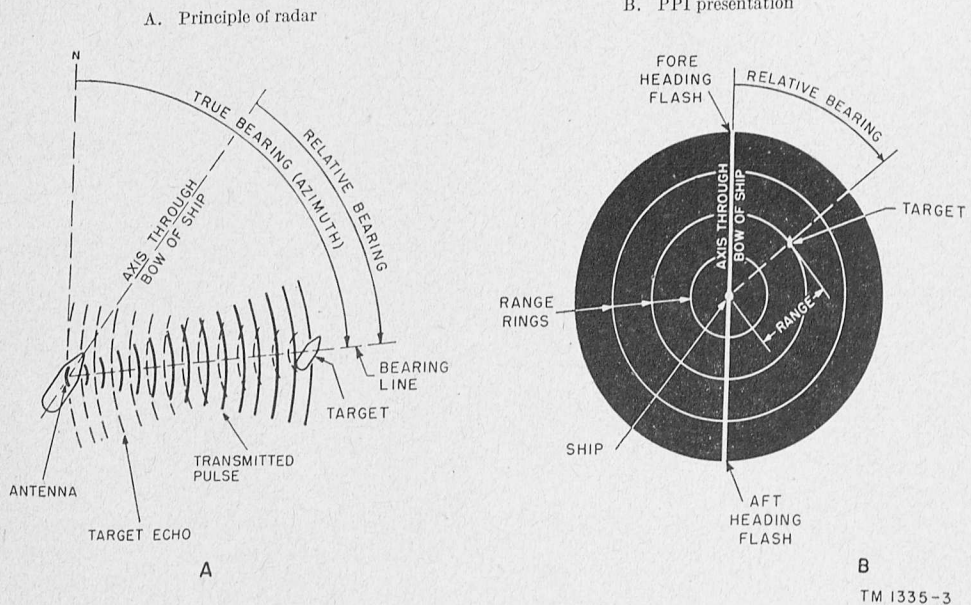
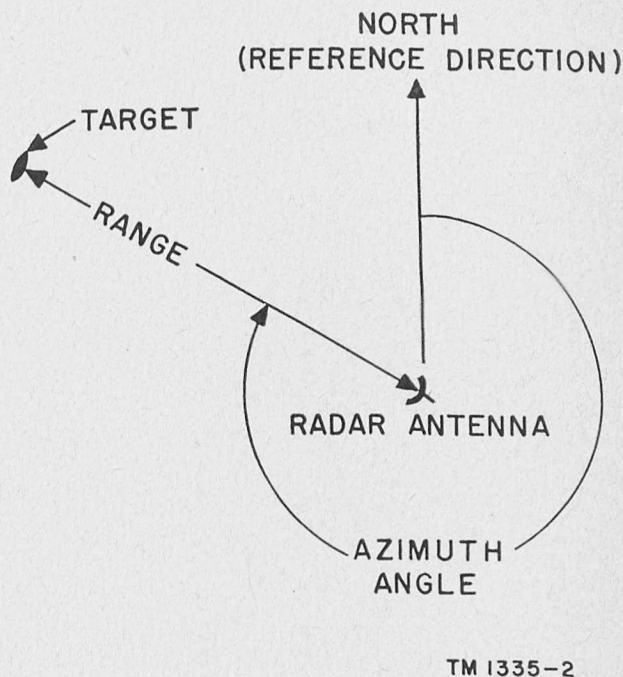

Figure 17. Radar patterns.
Figure 18. Azimuth angle and range.
Radar Set AN/SPN-11(*) radiates pulsed h-f (high-frequency) energy in a beam which is very narrow (1.9°) horizontally and relatively wide (20°) vertically. When the beam strikes a reflecting object, such as a ship or buoy, energy is reradiated or reflected from the object. A very small part of the reflected energy returns to the radar system. The reflected energy is known as an *echo*, and the object from which the energy is reflected is called a *target* (A of fig. 17). The radar antenna and, hence, the beam are rotated horizontally by an antenna drive motor to provide continuous
fig. 17). The direction in which the antenna is facing is then an indication of the direction in which the target would be seen from the antenna. This direction is read directly from the azimuth scale of the indicator scope in the radar set.
b. The determination of distance to the target is based on the fact that radio waves travel at a constant velocity approximately equal to the speed of light. In other words, the time interval between the transmission of a pulse and the return of its echo is a measure of the distance or range (fig. 18) between the target and the radar antenna. (Strictly speaking, this time interval is a measure of *twice* the distance between the radar antenna and the target. However, the radar set indicating device is calibrated to read the range distances directly (B of fig. 17)).
a. *True Bearing.* The true bearing of a point on the earth's surface from the position of an observer is the angle which the bearing line makes with the north-south line through the position of the observer. In A of figure 17, the north-south line (marked N) passes through the radar antenna, and the bearing line extends from the antenna to the target. The true bearing is the angle between these two lines, measured in the clockwise direction from the north-south line to the bearing line.
b. *Relative Bearing.* The *relative bearing* of an object is its direction from the ship, relative to the head of the ship. The relative bearing equals the angle between the fore-and-aft line of the ship and the bearing line of the object, measured clockwise from 0° to 360° . The line marked *axis through bow of ship* (A of fig. 17) is an extension of the fore-and-aft line of the ship. Therefore, the relative bearing is the angle which the bearing line makes with the fore-and-aft line of the ship.
c. *Plan Position Indicator.* On the PPI scope (B of fig. 17) the center of the scope represents the radar antenna, and the heading flashes coincide with the fore-and-aft line of the ship. The *relative bearing* is the angle, measured in the clockwise direction, between the heading flash
d. *Azimuth.* The *azimuth* of a celestial body such as the sun is its direction from the ship, measured from 0° at north to 360° *clockwise*. Azimuth is another term for bearing, and the two terms may be used interchangeably without confusing the meaning of either (figs. 17 and 18).
The range of a target (distance from the radar antenna to the target) is measured by the time required for the transmitted pulse (radio waves) to travel from the radar antenna to the target, plus the time required for the echo to return from the target to the antenna (A of fig. 17). It takes $1 \mu\text{sec}$ (microsecond) for a radar signal to make a *round trip* between an antenna and a target 164 yards distant. The time is measured and converted by the radar set into visual information which is presented on the PPI scope. Thus, if the round trip requires $24.73 \mu\text{sec}$, the range to the target is 4,053.4 yards, and this distance is indicated on the PPI as 2 nautical miles. (Range also may be indicated in statute miles.)